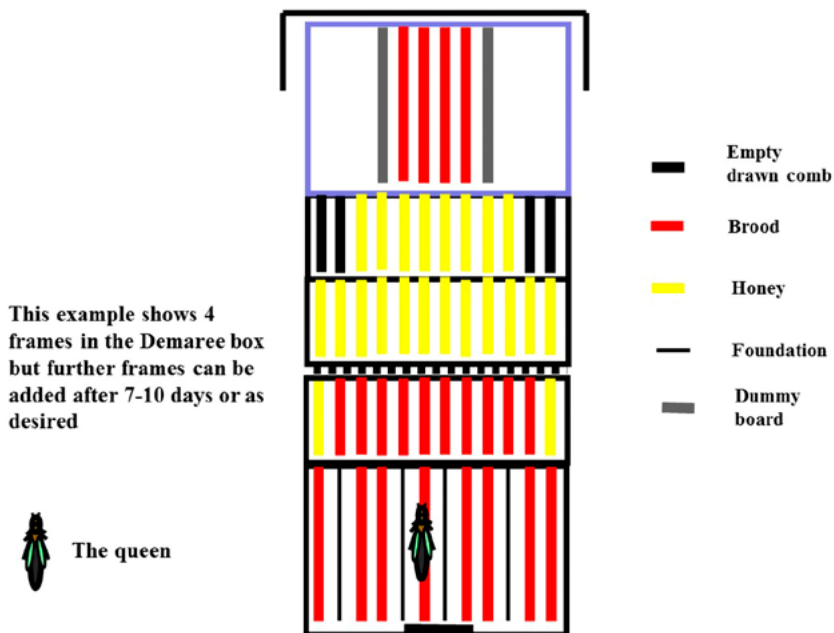

Figure 6: Demaree method of comb replacement
1. **The Demaree Method:** this enables frames containing brood to be moved to the top of the hive (where the brood can emerge and not be lost to the colony) and be replaced by frames of foundation (see **Figure 6**). This management also doubles-up as pre-emptive swarm control.
The method is best applied to a fairly large colony (see example in **Figure 6**), in other words there are a lot of bees in the hive. This means that the best time is likely to be mid-May to mid-June, when the colony is at or near its peak. Later in the season, as the brood nest starts to contract, the colony will be less willing to draw foundation. As it is not possible to feed a colony in this hive configuration (with supers on it), the comb drawing must rely on there being a nectar flow at the time. It does not have to be a large flow but there has to be some incoming nectar.